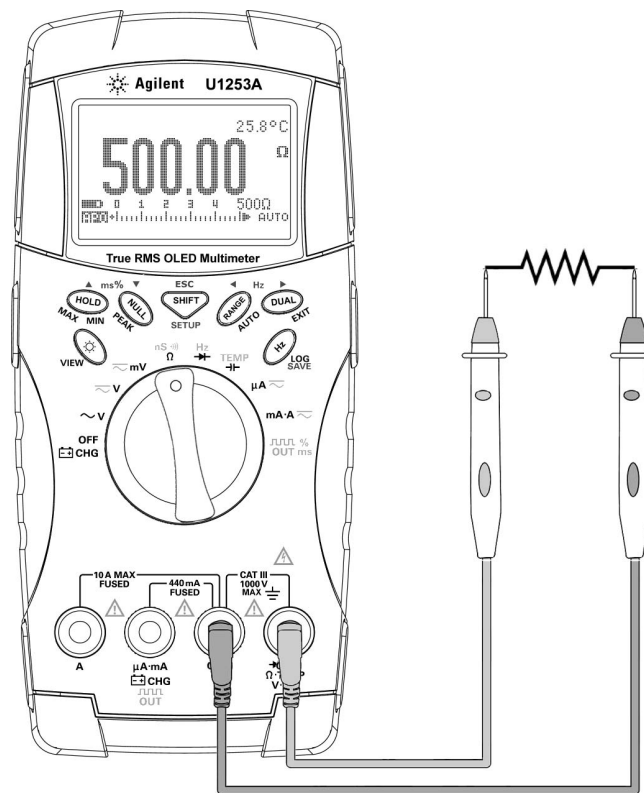

Figure 2-7 Measuring resistance
- 2 Connect the red and black test leads to input terminals Ω (red) and COM (black) respectively (see Figure 2-7 on page 41).